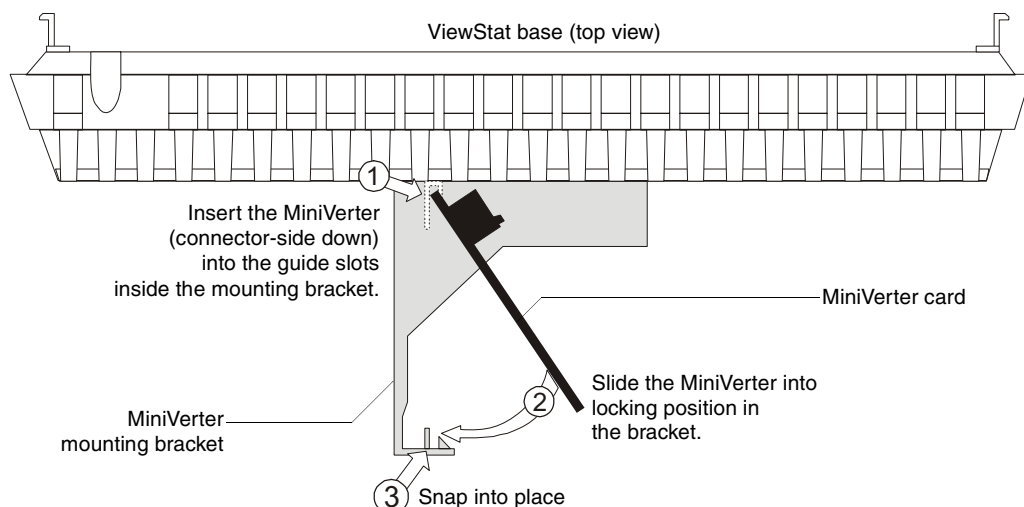

FIG. 6 Inserting the MiniVerter into the mounting bracket (top view).
6. Insert the MiniVerter (connector-side first) into the guide-slots located on the bottom of the MiniVerter mounting bracket (FIG. 6).